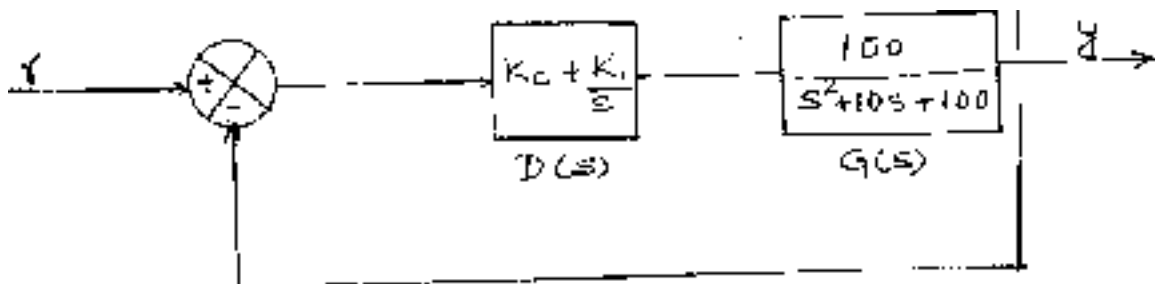

Fig. 3
3.a) A control system with a type O process and a P1 controller is shown in fig. 3 8